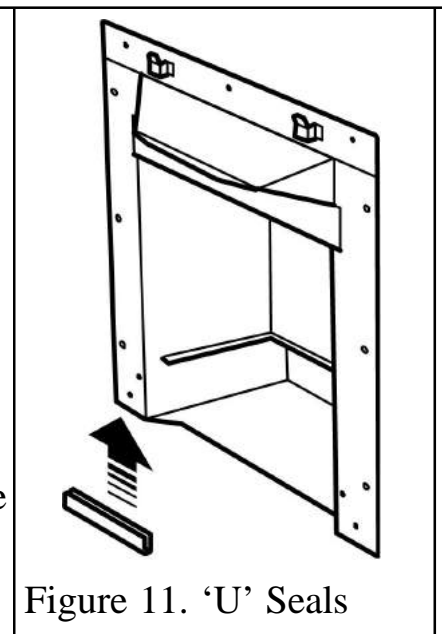

Figure 11. 'U' Seals
2. Fit the two "U" section seals to the bottom edges of the convection box side flanges (See figure 11).